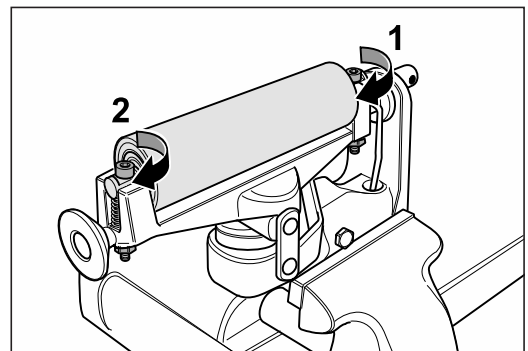
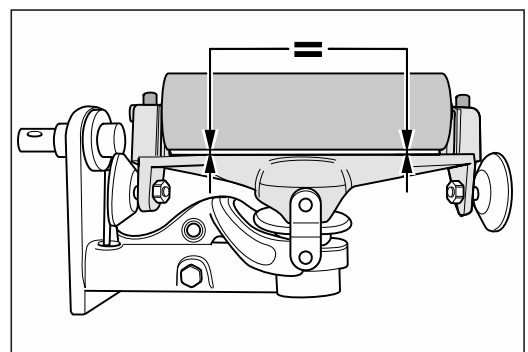

Fig. 59 Tighten the side without spring (1) and then the side with spring (2), so that ...
Fig. 60 ... the tensioning roller is positioned parallel to the top of the drive unit.
- 7 Tighten the screw of the unsprung bearing pedestal side (fig. 59, 1).
- 8 Turn the screw on the sprung side of the tensioning roller (fig. 59, 2) far enough so that the tensioning roller is positioned parallel to the upper part of the drive unit (fig. 60).